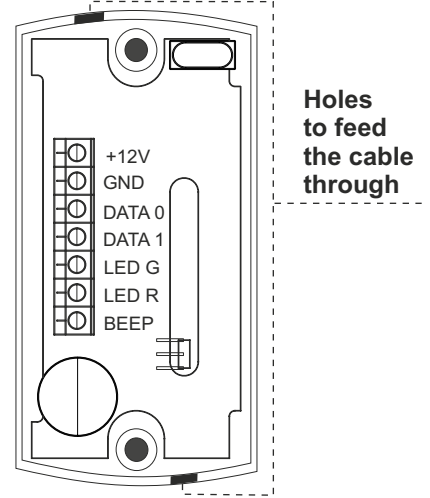

Fig. 3
3. Break out a thin tab in the case from the side where the cable must come out (Fig. 3), and feed the cable through. When the power is connected to the reader, the red LED will come up.